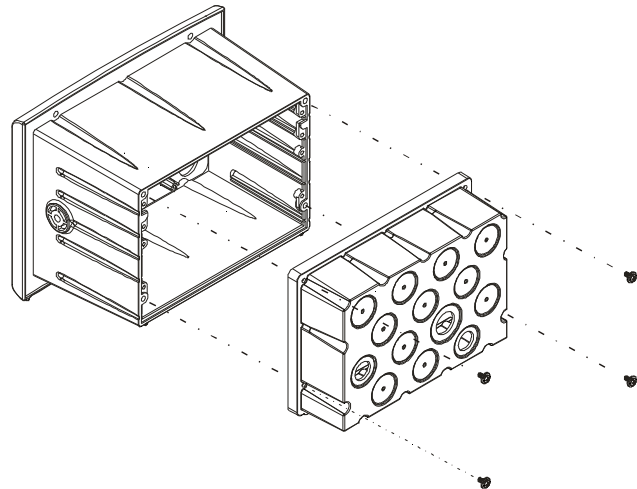

FIG. 88: ALIGNING THE REAR COVER TO THE CHASSIS
- Step 4. Position the rear cover, pulling the cable if necessary so that the thru holes on the rear cover align with the threaded holes on the HI 3000 Instrument chassis. (See Fig. 88)